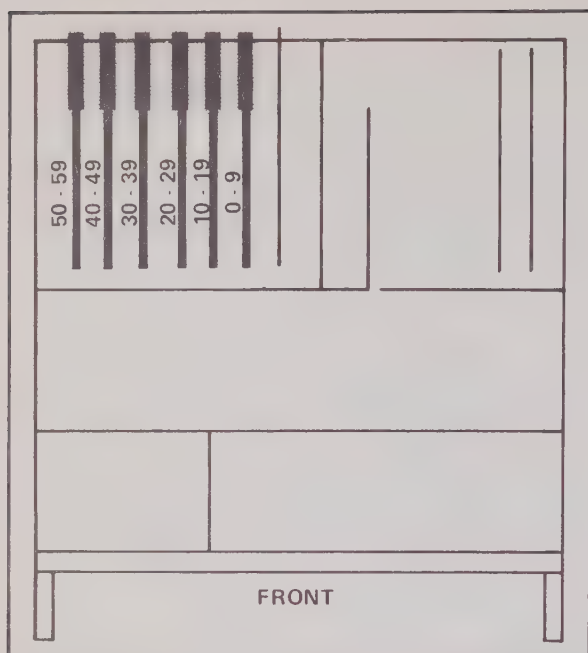

Figure 628-2.
- Locate the desired scanner-block slot on the rear panel and check to ensure that a scanner module is installed in the slot. See Figure 628-2